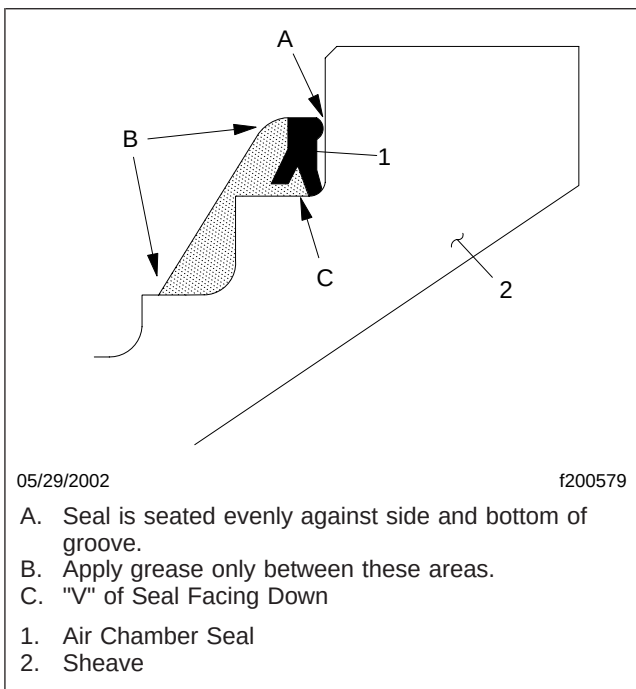

Fig. 9, Correct Installation of Air Chamber Seal (cross-section view)
11. Install the air chamber seal into the sheave. Be sure the seal is evenly seated against the side and bottom of the groove surfaces, and the "V" of the seal is facing down. See Fig. 9.